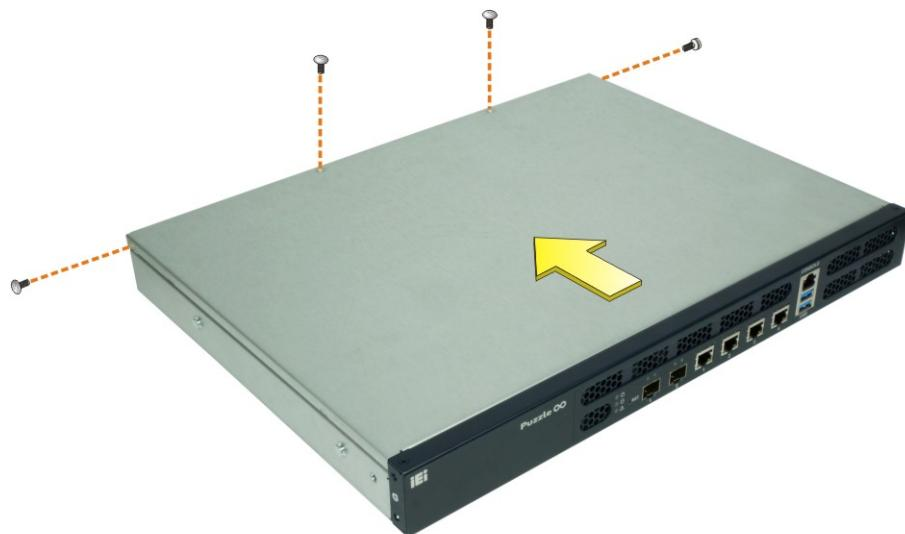

Figure 3-1: Top Cover Removal
Step 1: Remove the four retention screws indicated in **Figure 3-1**.
Step 2: Slide the top cover towards the rear side and gently lift the top cover (**Figure 3-1**).